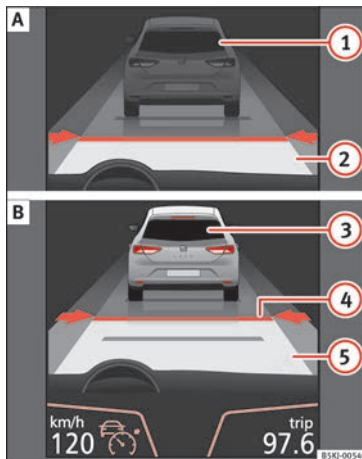
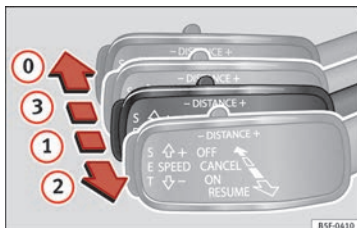
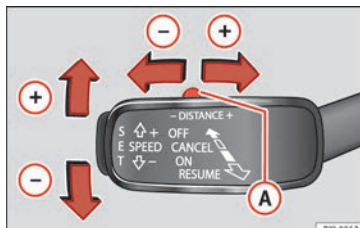

Fig. 191 On the instrument panel display: (A) ACC inactive (Standby). (B) ACC active.
Fig. 193 On the left of the steering column: third lever for operating the Adaptive Cruise Control.
Fig. 194 On the left of the steering column: third lever for operating the Adaptive Cruise Control.
Indications on the display »» **Fig. 191:**
When the Adaptive Cruise Control (ACC) is connected, the green control lamp  will light up on the instrument panel, and the programmed speed and ACC status will be displayed » **Fig. 191**.
» **Fig. 194**. If you wish to increase or reduce speed by intervals of 1 km/h (0.6 mph), move the lever to position ② or press the » **Fig. 193** button **SET**.
The set speed can be changed when the vehicle is stopped or during driving, as you like. Any modification to the programmed speed will be shown on the bottom left part of the instrument panel display » **Fig. 191**.
To increase/reduce the distance level, press the rocker switch towards the left/right » **Fig. 194** **A**.
- To activate the ACC, press the **SET** button or move the third lever of the ACC to position **2** » **Fig. 193**. At this point, the image of the ACC on the instrument panel display will switch from *Inactive* (Standby) to *Active* mode » **Fig. 191**.
To disconnect the ACC move the lever to the **0** position » **Fig. 193** (engaged). An **ACC deactivated** message appears and the function is totally deactivated.
If you do not wish to disconnect the ACC, just to switch it temporarily to inactive mode (Standby), move the third lever to position **3** » **Fig. 193** or press the brake pedal.